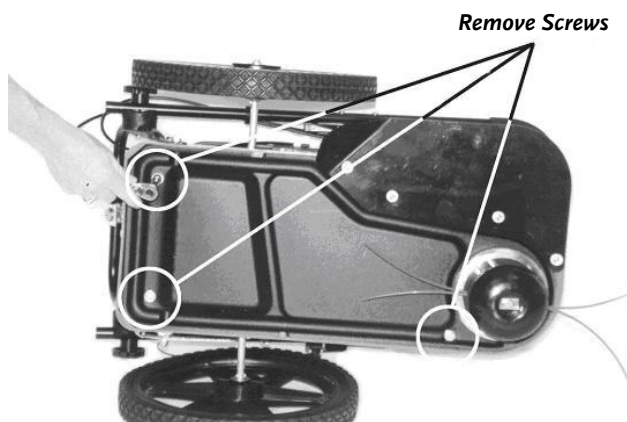

Figure 23
3. Remove the two (2) mounting Bolts and Washers at the rear of the Frame (**Figure 23**).
4. Remove the third mounting Bolt and Washer from the front of the Frame on the outer edge near the Bearing Housing (**Figure 23** on page 33).